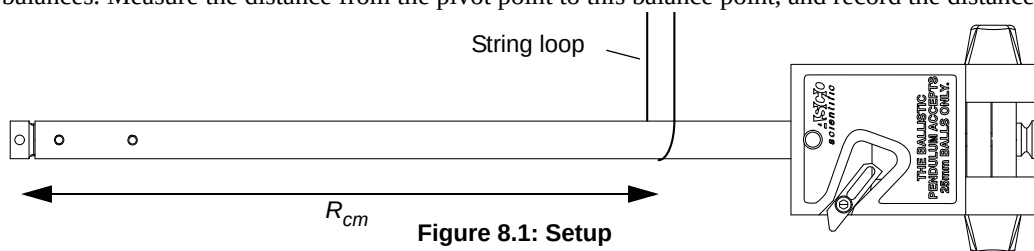

Figure 8.1: Setup
- Tie a loop in a piece of string, and hang the pendulum horizontally from the loop. (See Figure 8.1.) With the ball latched in position in the ball catcher, adjust the position of the pendulum in the loop until the pendulum balances. Measure the distance from the pivot point to this balance point, and record the distance as R_{cm} .